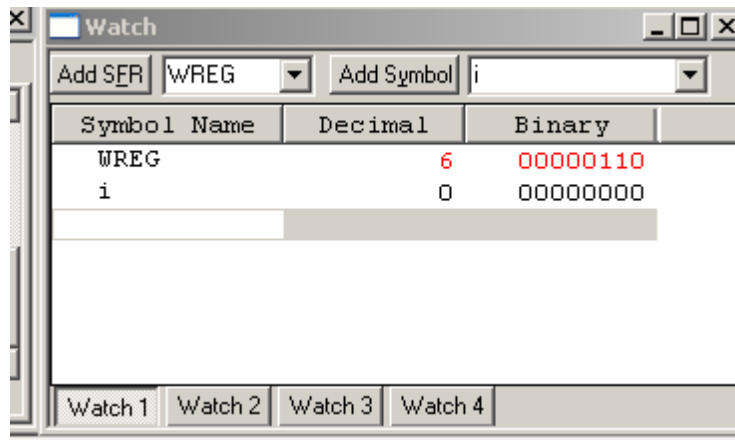

Fig 2.7: Moving literal values into the WREG
- c. Observe the change to **WREG** in the *Watch* window: **6** has been loaded into the working register. Hence, the instruction **movlw** (i.e. move a literal value into the working register) is visible in both binary and decimal. Notice also that it turned everything red, indicating a change has been made (Fig 2.7).